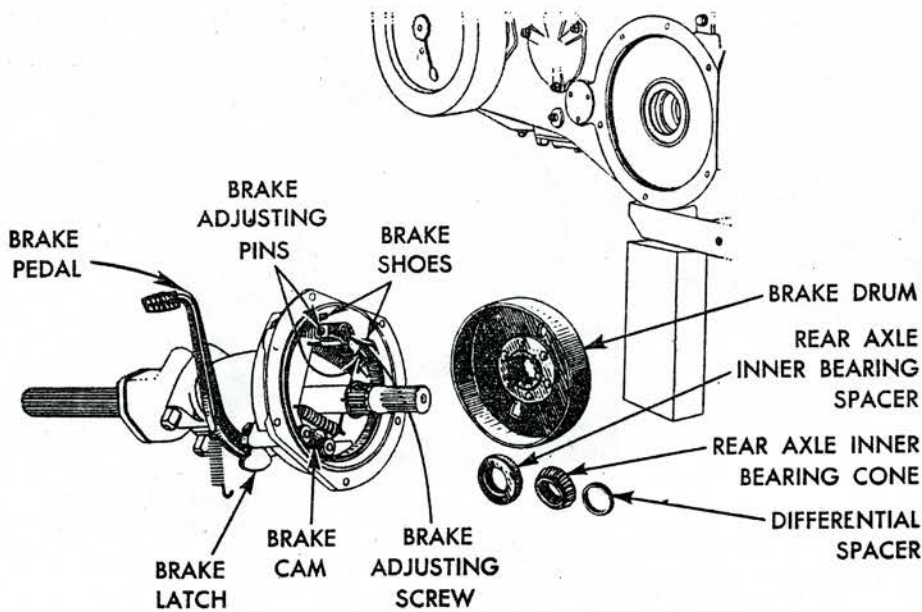

Fig. 49 Brake details. Series H
**BRAKE SHOE**—To remove brakes, remove six cap-screws holding rear axle housing to case. Brake drum can be removed by placing the heads of two bolts through the square openings in drum, sliding the bolts in the slots provided and then pulling drum off by putting a clamp bar over the end of the rear axle shaft and tightening nuts on bolts, Fig. 49.